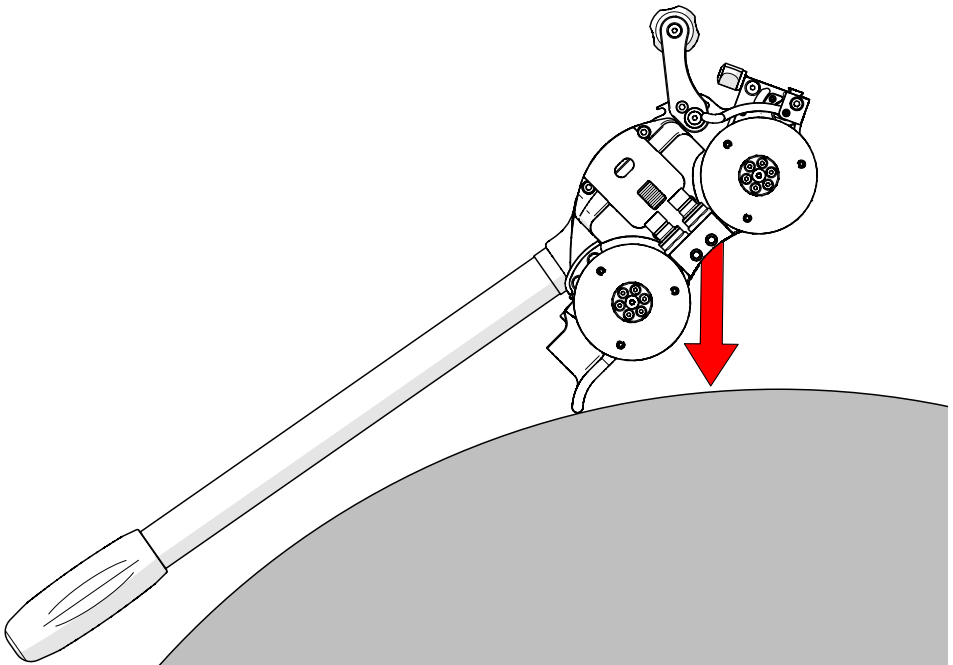

Fig. 181 - Lower crawler's pry point towards inspection surface
6. While firmly grasping the crawler handle with one hand, and the manipulation handle with the other, carefully lower the pry point of the crawler towards the inspection surface with the wheels of the crawler held as high off the surface as possible (*Fig. 181*).